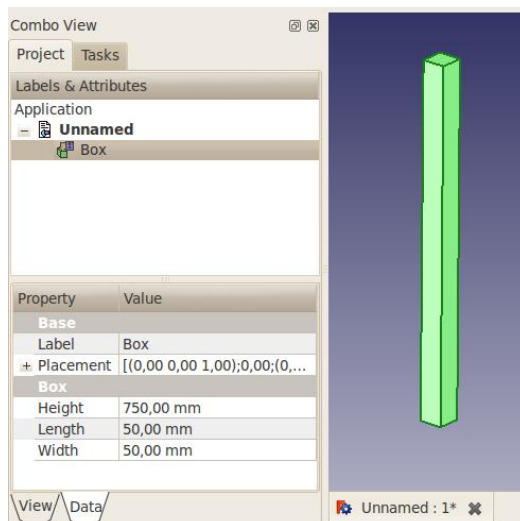

Fig. 1.1 The first box
- Click on the Data tab at the bottom, and change values for Height, Length and Width to 750mm, 50 and 50 (see Fig. 1.1)